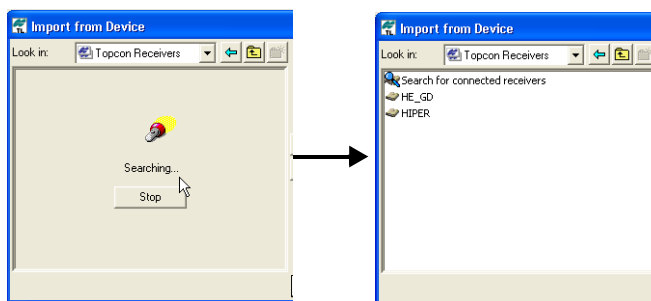

Figure 5-6. Search for Topcon Receivers
4. The program automatically searches for Topcon receivers connected to the computer ports (COM and USB). When finished all receivers connected to the computer ports (Figure 5-6) display.